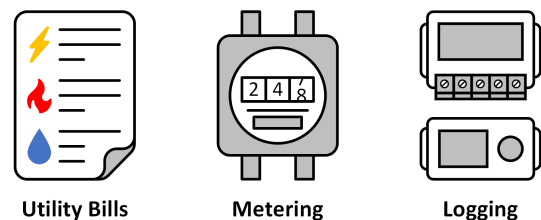

Figure 5: Common sources for collecting energy data.
For each energy resource identified in Step 1, you must collect data for the baseline and reporting years. Common resources for data collection are shown in Figure 5. Each resource must be converted to a common unit (usually MMBtu) using an appropriate conversion factor. Multipliers for non-energy resources (purchased compressed air, steam, chilled water, etc.) can be found in the full Energy Baseline Guidance [1]. The DOE's Energy Footprint (EF) tool can help organize your site energy data during this step.